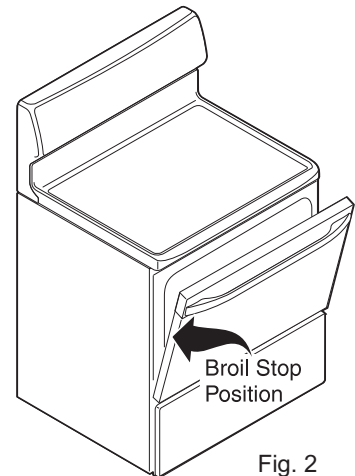

Fig. 2
6. Place the broiler pan and insert on the oven rack (if equipped). **Open the oven door to the broil stop position when broiling** (See Fig 2).